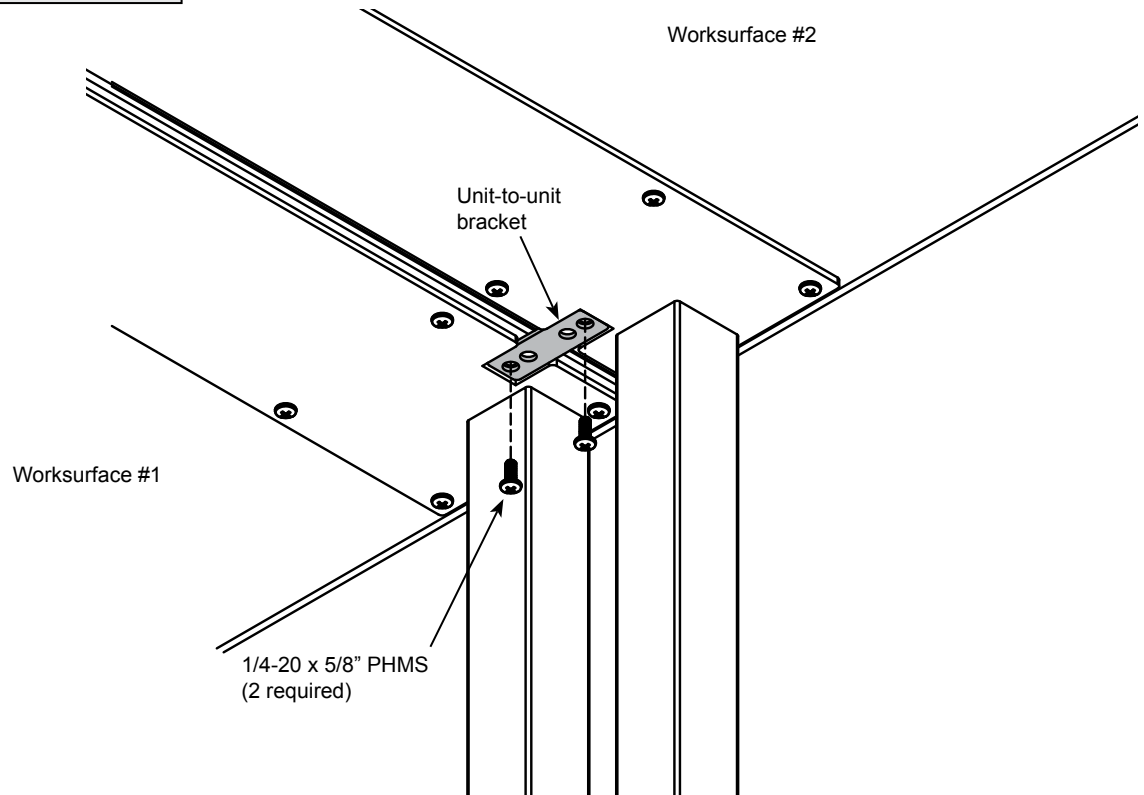

Figure 2
2. Attach the unit-to-unit brackets to both table worksurfaces as shown with 1/4-20 x 5/8" PHM screws and tighten securely. **Figure 2.**